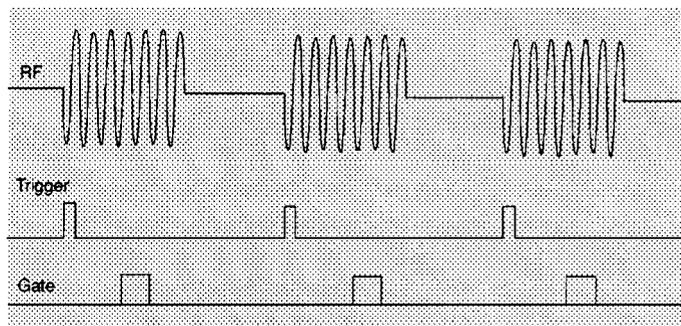
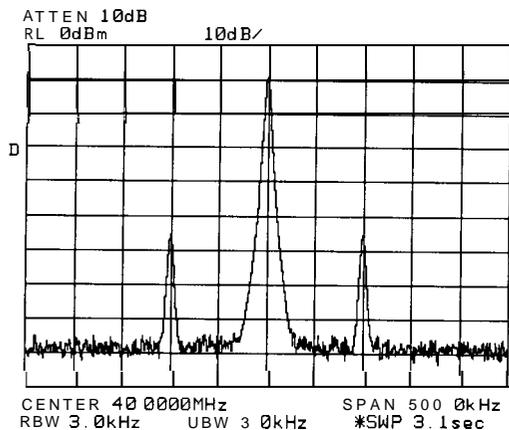

Figure 2-69. Oscilloscope Display
Figure 2-70. Spectrum Analyzer Display
3. Check the oscilloscope display and ensure that the gate is positioned under the pulse. The gate should be set to be on around the third quarter of the pulse. If necessary, adjust gate length and gate delay. See Figure 2-69 and Figure 2-70 for displays of the oscilloscope display and spectrum analyzer display when the gate is positioned correctly.